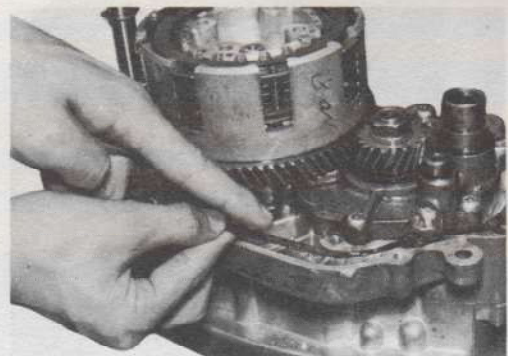

Fig. 3-36
- b. Always replace a damaged or defective crankcase cover gasket. (Fig. 3-36)